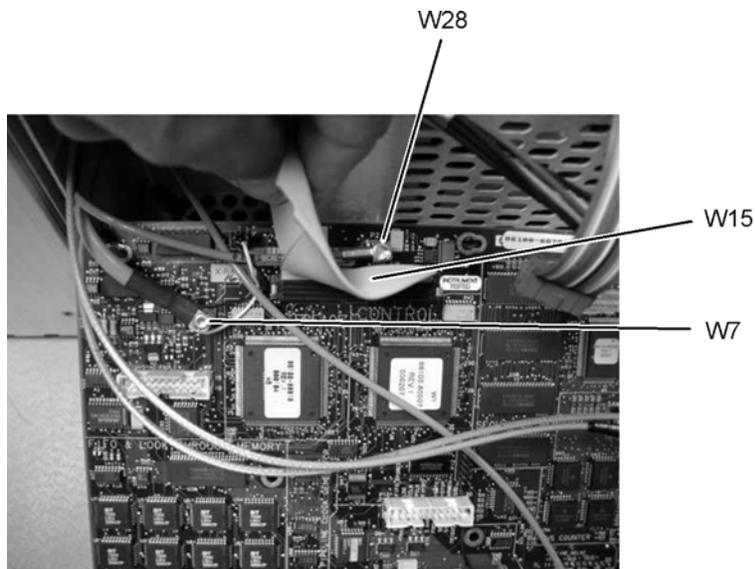
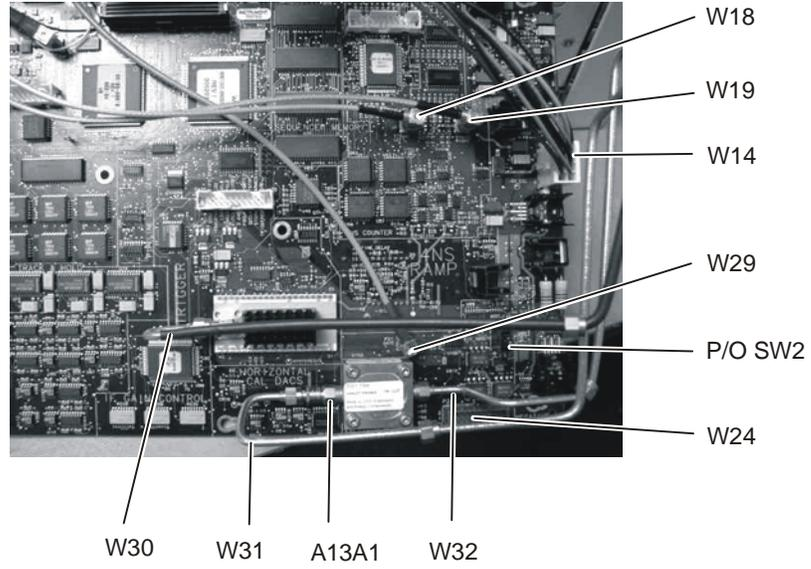

Figure 7-68. W28, W7, and W15 Cables from the A13 Acquisition Board
Figure 7-69. Cables from the A13 Acquisition Board (option 001)
- 8 Refer to Figure 7-68 and Figure 7-69 for cable connections.